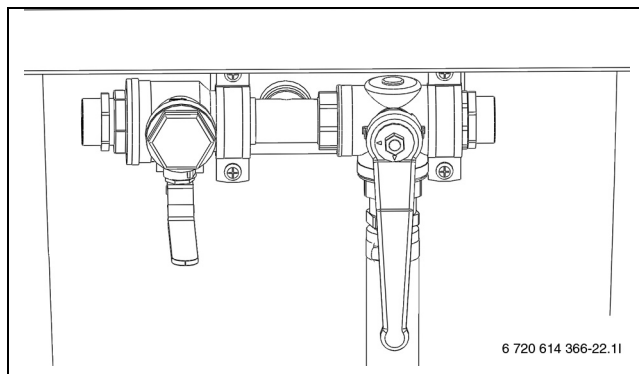

Fig. 18 Filling station in mixing position
- ▶ Turn the valves on the filling station so that they are in mixing position (→ Figure 18).